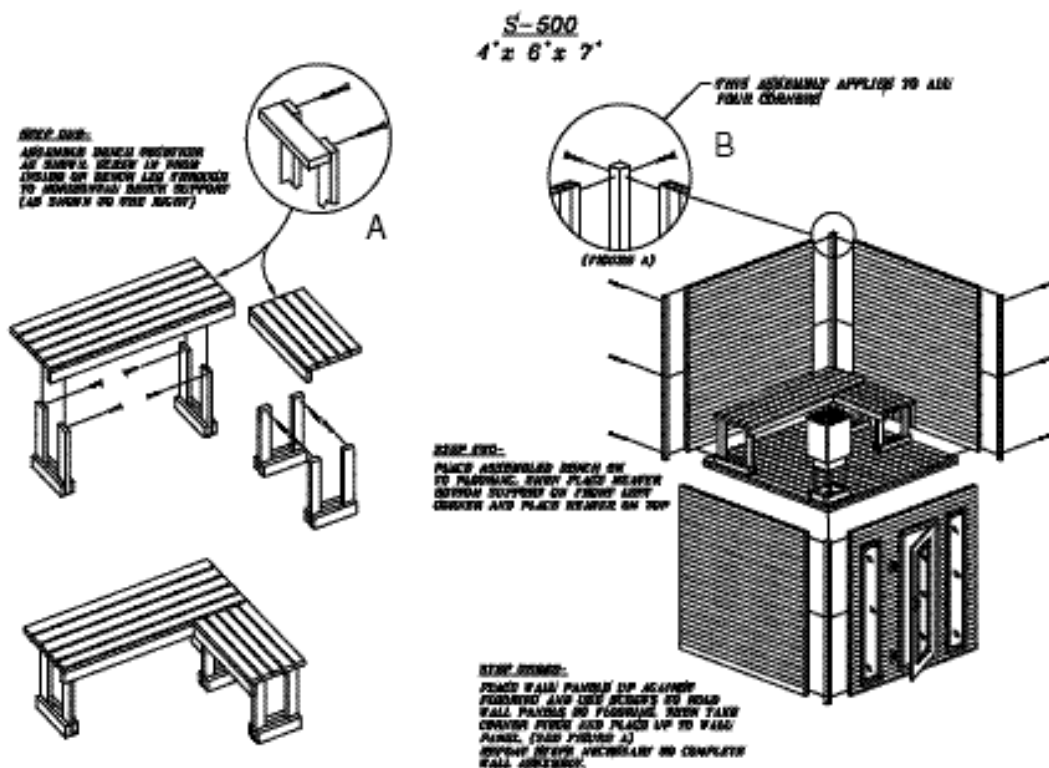

Figure 13A. S-500 Extreme Sauna Step 1 through Step 3
**NOTE:** The following steps deal with **Figure 13A**.